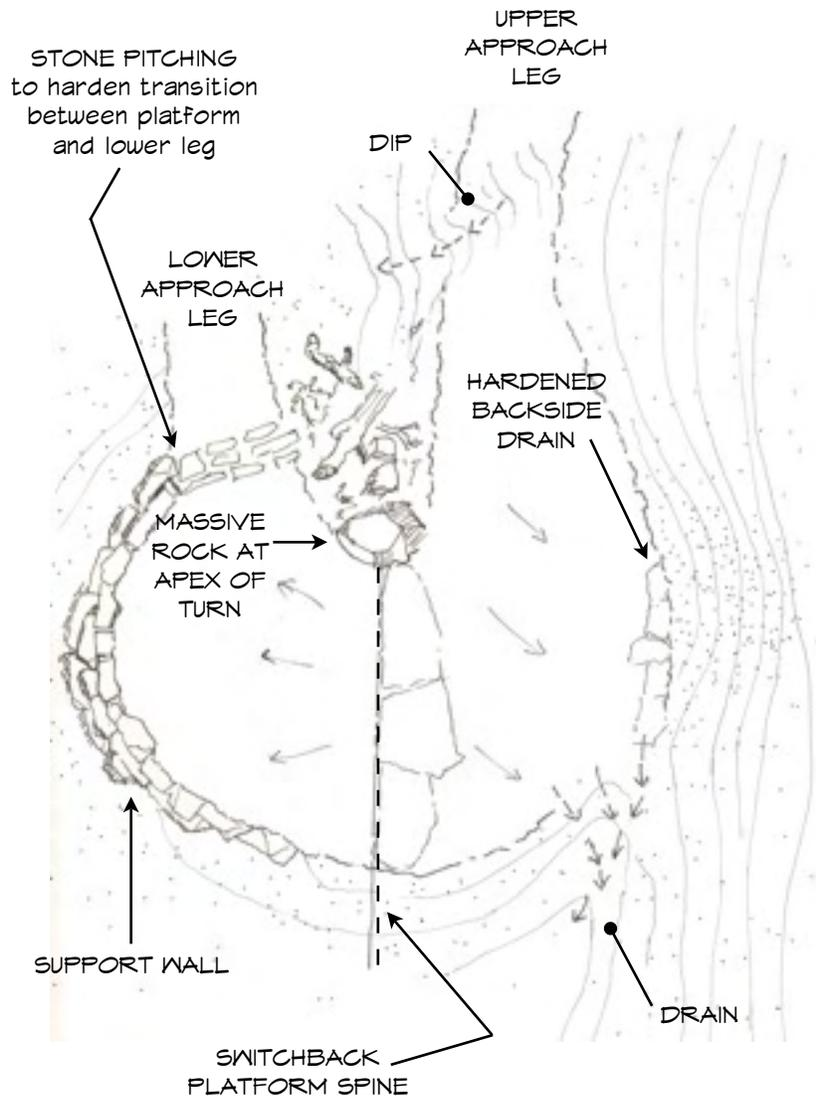

FIGURE 6. Plan View of Switchback
(Complete after clearing the corridor. Plan and cross-section views of a switchback are shown in Figures 6 and 7, respectively.)
- Harden the spine of the turning platform as a barrier to hollowing out. The spine is an imaginary line bisecting the turning platform into an upper and lower half (see Figure 6). The surface of the platform slopes down on either side of this line. Set large flat rocks into the uphill side of the platform along the spine and pitched to direct water toward the back side of the turn. Gently slope the other half of the platform in the downhill direction. The hardened spine should stop any hollowing out of the tread from passing through the turn.²⁴ The spine itself should also pitch down from the apex (center point of the turning radius) to the outside edge of the platform to help the back side properly drain.
It may be wise to harden the entire width of the tread at the junction of the lower end of the turning platform and the lower approach leg. An area of stone pitching hardening is shown in Figure 6.